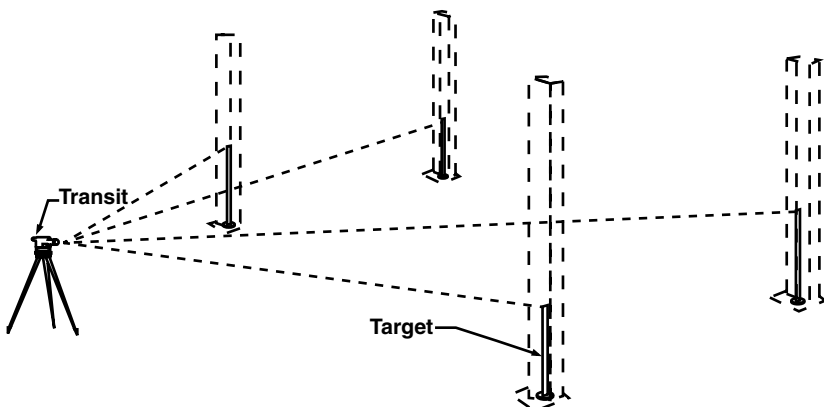

Fig. 2 **COLUMN SHIM ESTIMATES**
- B. Place target at column positions and record readings, Fig. 2.